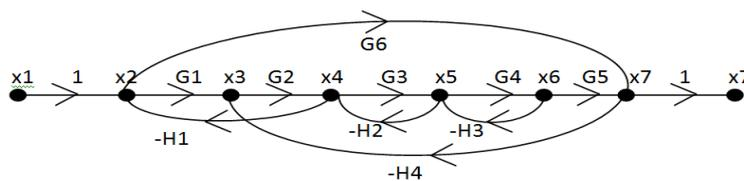

Fig.3
- (b) Determine the transfer function x_7/x_1 of the SFG shown in figure.3 using Mason's gain formula. 8M